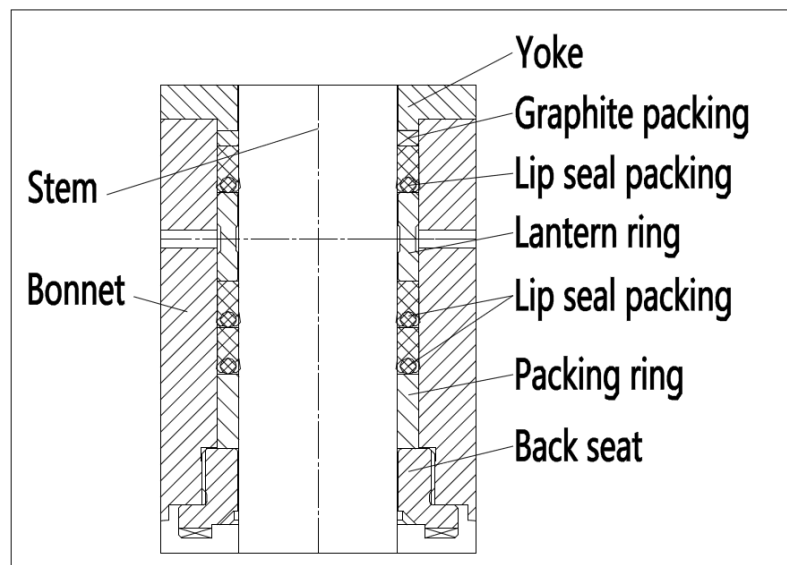

Figure 3 - Lip Seal Packing
6.3.1 For valves size up to 16 inch, stem sealing system is as Figure 3